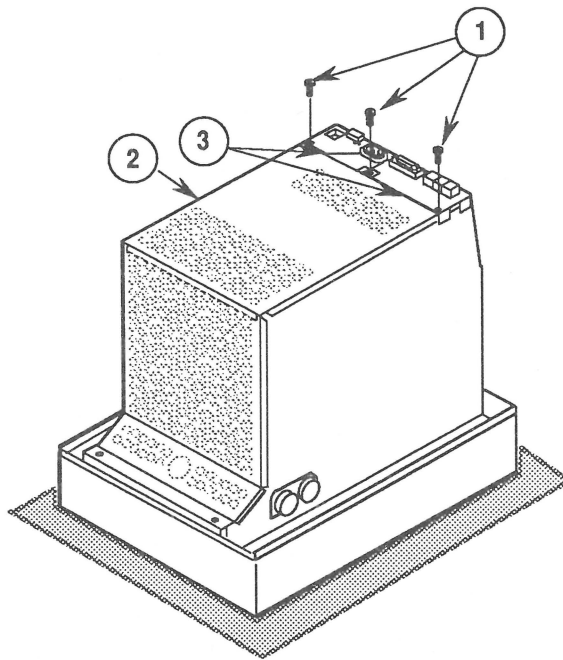

FIGURE 2
2. Remove the three screws (Figure 2, #1) from the rear panel of the EMI shield (Figure 2, #2).
3. Slightly lift the two metal brackets (Figure 2, #3), and then slide out and lift the rear panel off the chassis.